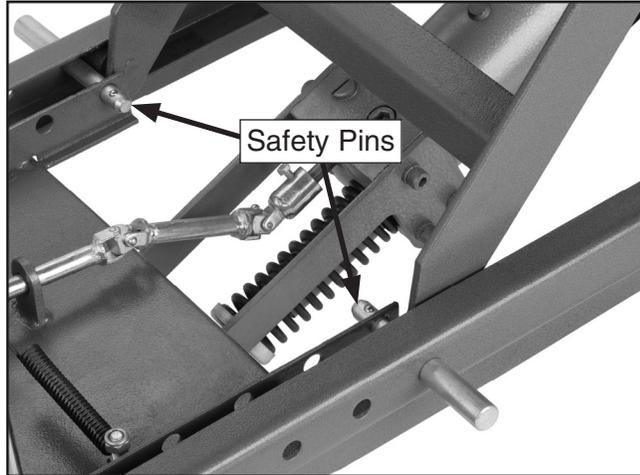

Figure 3. Safety pins.
2. Pump the lift pedal up and down until the table reaches the desired height, then set the safety pins as shown in **Figure 3**.